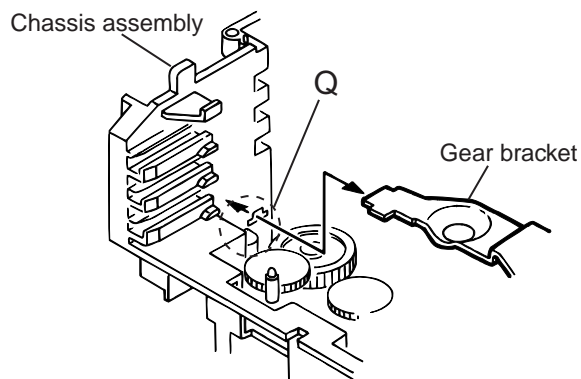

Fig.19
1. Remove the two screws 10 retaining the gear bracket (See Fig.19).
2. While pressing the pawl "P" fixing the gear bracket in the arrow direction, remove the gear bracket (See Fig.19).
4. Remove the belts respectively from the right and left actuator motor pulleys and pulley gears (See Fig. 19).